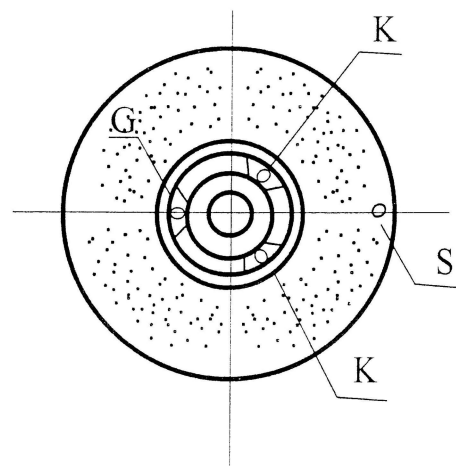

Fig.12
3.1.5 Turn the wheel through 90 degree and see if it is in balance, if not, the correction weight "K" must be changed a place until the wheel is in balance, and no oscillation occur in every position. (Fig.12)